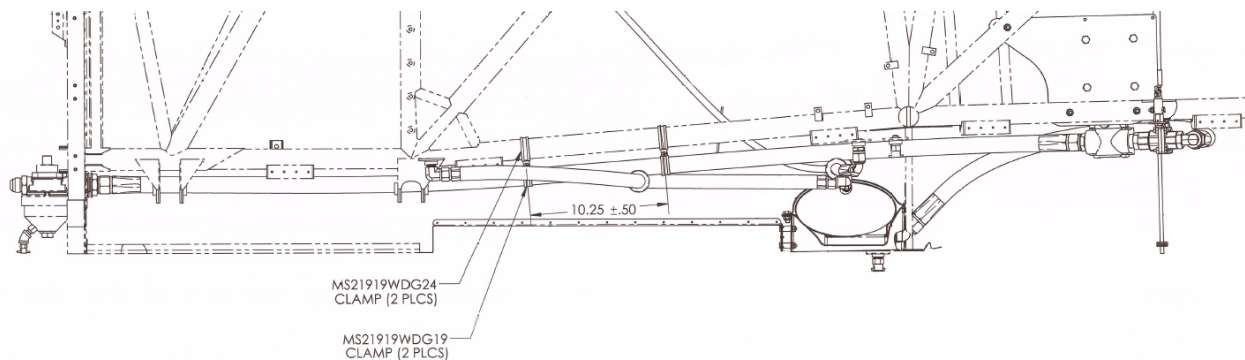

Figure 3
13. Install hose to pump and route forward towards firewall. (Reference Figure 3)
15. Secure hoses to fuselage using clamps. (Reference Figure 3)